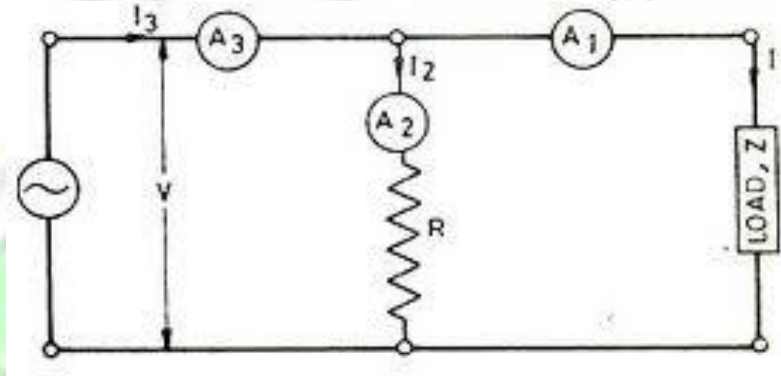

Fig. 2
- 1- Wire the circuit shown in Fig. 2.